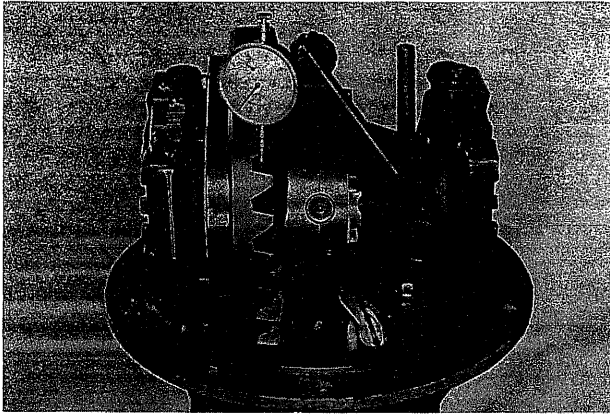

Fig. 65
Determine backlash between drive pinion and bevel gear using a dial indicator as shown. For correct backlash, adjust shims (35) between bearing retainer (36) and carrier (5) or turn adjust nut (10). (Fig. 54, Fig. 65)